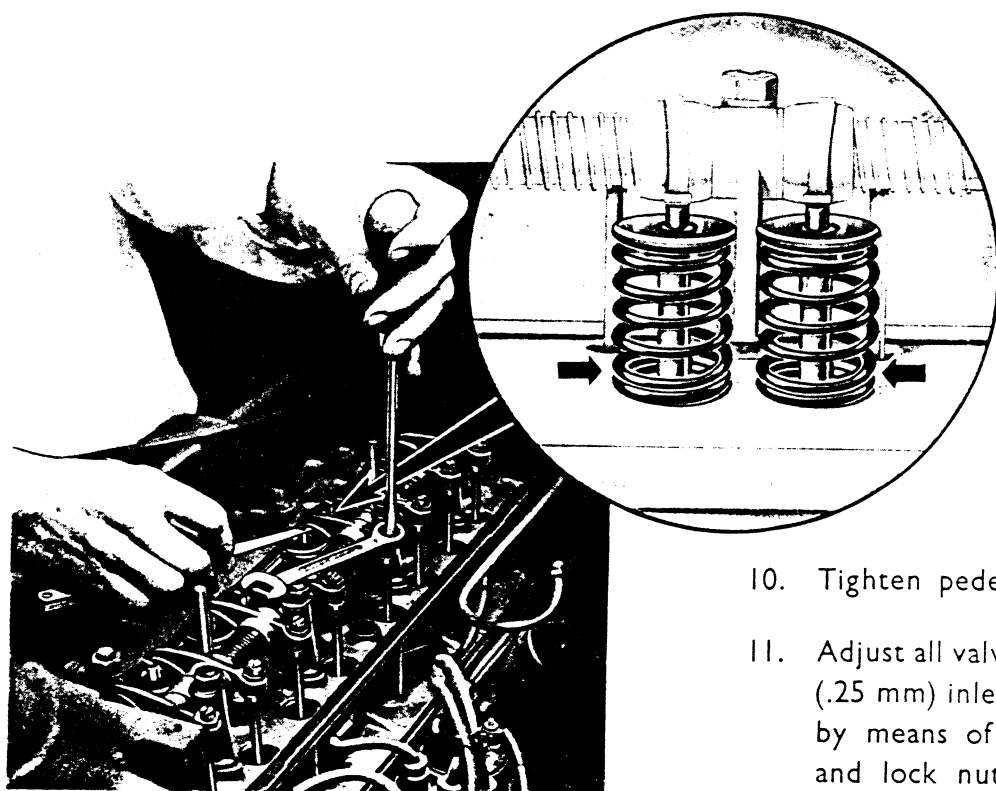

FIG. 23
1. Place spring over the valve stem with close wound coils to spring seat shown in Fig. 23 inset.
11. Adjust all valve tip clearances to 0.010" (.25 mm) inlet, 0.012 (.3 mm) exhaust by means of rocker adjuster screws and lock nuts as shown in Fig. 23.